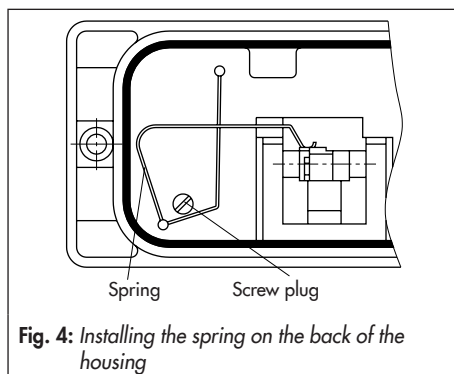
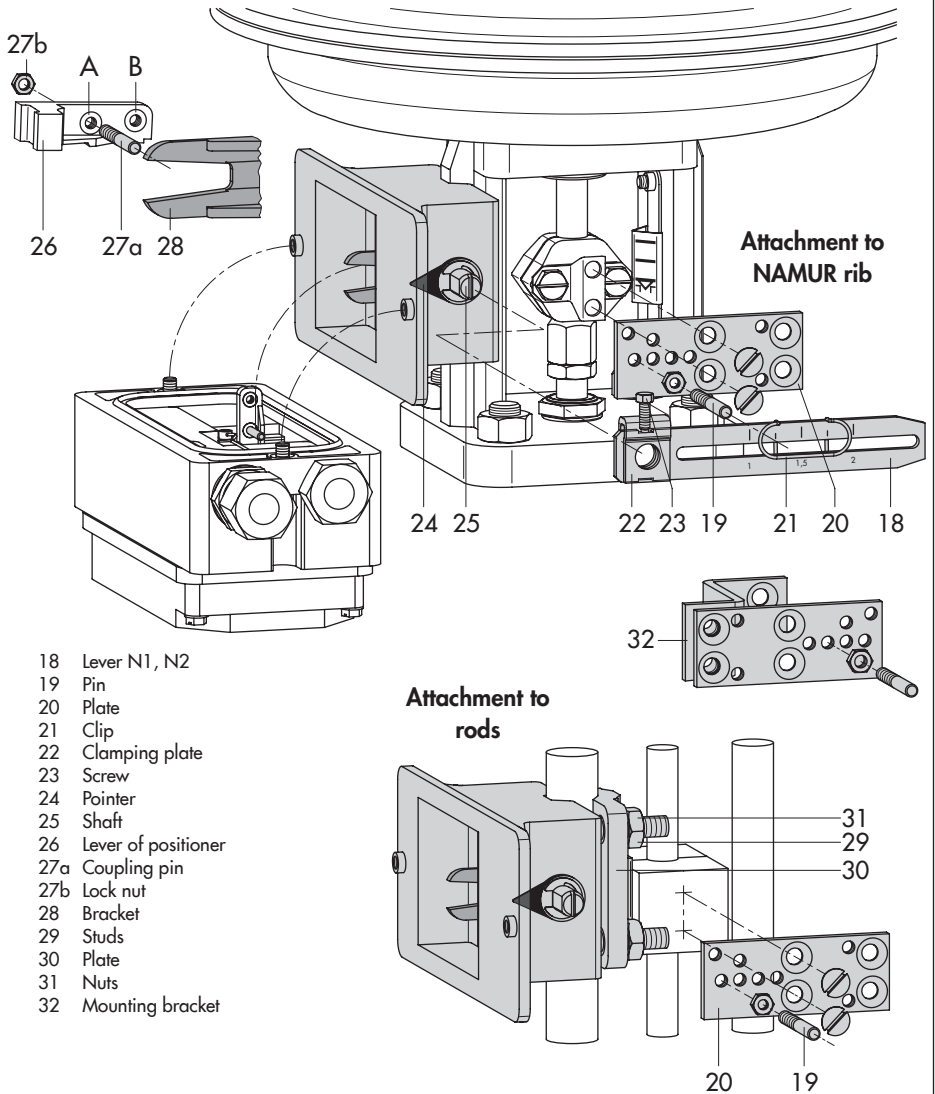

Fig. 4: *Installing the spring on the back of the housing*
Fig. 6: Attachment according to IEC 60534-6 (NAMUR)
7. Remove screw plug on the back of the positioner (Fig. 4) and seal the side signal pressure output with the stopper included in the accessories.
8. Mount the positioner so that the hole in the intermediate plate (15) covers the seal in the hole of the actuator yoke.
An adapter housing is used for attachment (Fig. 6). The valve travel is transmitted by the lever (18) and the shaft (25) to the bracket (28) of the adapter housing and then passed on to the pin (27a) on the lever of the positioner. To ensure that the pin (27a) is properly located in the bracket (28), fix the spring included in the accessories at the back of the positioner housing as illustrated in Fig. 4.
The positioner can be mounted either on the left or right side of the control valve (Fig. 5 and Fig. 6). Turn the positioner at the adapter housing by 180° to determine or change the operating direction of the positioner/control valve unit.
Mounting position on the plate looking onto the travel pick-off (20), actuator facing upward (see also Fig. 6)
➔ Mounting parts and range spring: see Table 4/Table 5; mounting according to Fig. 6.
2. Move the shaft (25) in the adapter housing so that the black pointer (24) matches the cast marking on the adapter housing.
3. Fasten the clamping plate (22) in this position using the screw (23).
4. Screw the pin (27a) into the positioner lever on the side where the press nut is located. Lock it in position with the hex nut on the other side, observing the mounting position **A** or **B** according to Table 6 and Fig. 6.
5. Place the positioner on the adapter housing, taking into account the mounting direction. Fasten it, making sure that the pin (27a) rests against the bracket (28). The pin must not slip out of the bracket once installed.